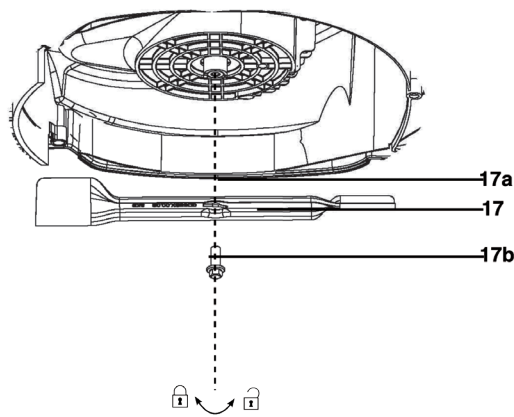

Fig. 15
1. Keep the underbody and cutting device (17) clean and free of debris. Remove clippings from the discharge chute (18).
3. Keep the cutting device (17) sharp to ensure a good cutting performance. Replace a worn or damaged cutting device with a new one of the same type or have it sharpened by a qualified specialist.
4. Loosen the bolt (17b) anti-clockwise using a suitable wrench and remove it together with cutting device (17) (Fig. 15).
6. Reattach the cutting device (17) onto the spindle (17a), pay attention to correct alignment. Then retighten the fastening bolt. The tightening torque should be approximately 25 N m.
8. Lubricate the cutting device (17) after each use to prolong the life span of cutting device and product. Apply light machine oil along the edge of the cutting device.